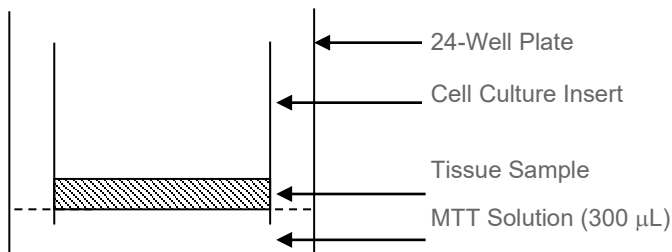

Figure 2: Incubation in the MTT Solution (37°C, 95% rH, 3 hrs, 5% CO₂)
j) **MTT loading:** Return the tissue samples in the 24-well plate to the incubator for 3 hours. **See Figure 2.** Note: Deviations from the 3 hour time for MTT incubation will result in different MTT readings thus the 3 hour MTT incubation time should be strictly adhered.